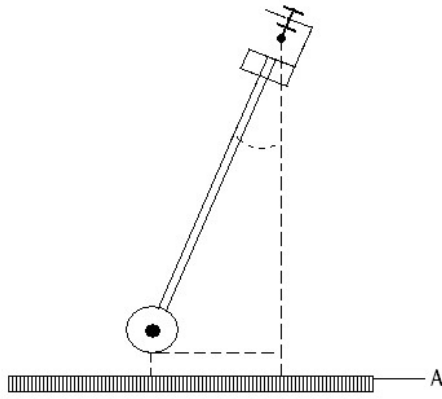

Fig. 1 Calibration of output voltage,
- Determine the angle of deflection geometrically with the help of a ruler (see Fig. 1) and match this with the corresponding output voltage.